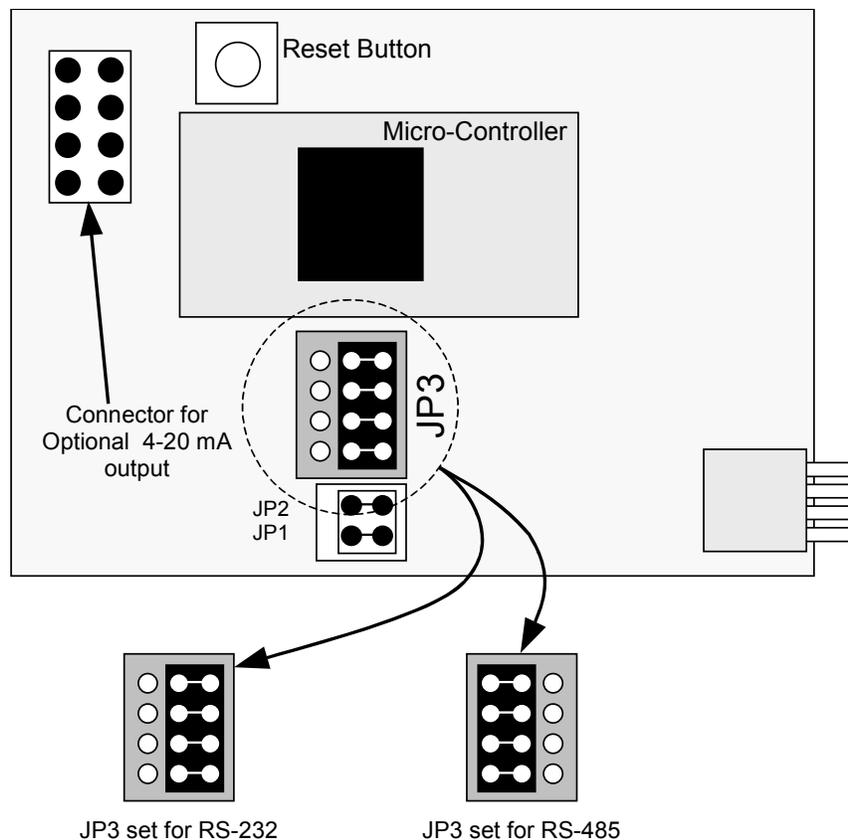

Figure 3-11 RS-232/RS-485 Jumper Location and Settings
- Also make sure that JP1 is jumpered. It may be hanging off of one pin, make sure it is jumpered together as in Figure 3-11.